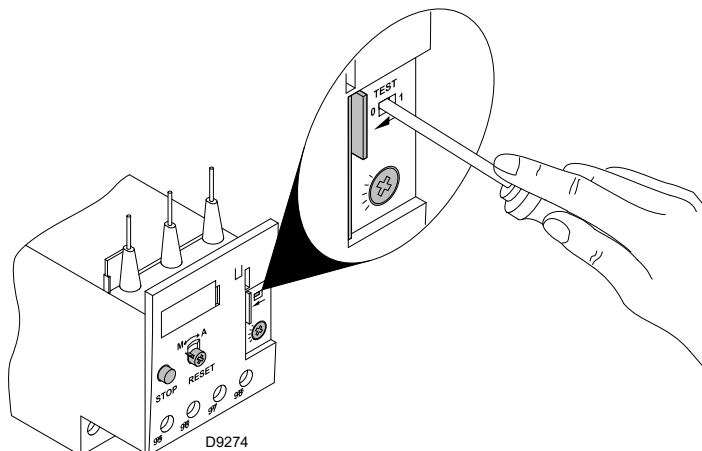

Fig. 18
- To test the thermal relay, insert a screwdriver in the window **"TEST"** (Fig. 18) and move it in the sense of the arrow (towards right).